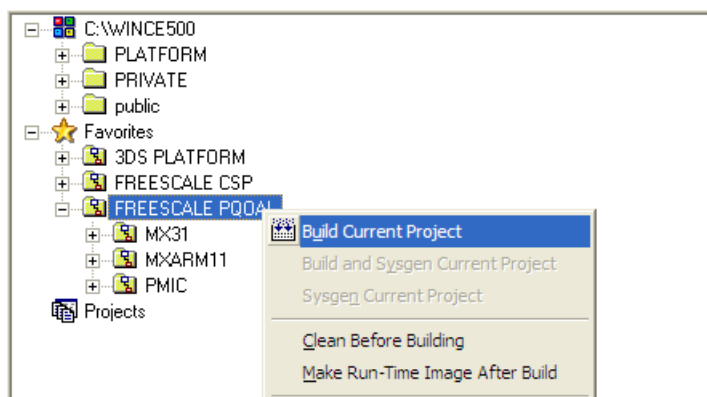

Figure 4-5 Incremental Build for CSP and PQOAL Libraries
7. If any PQOAL source files have been modified, perform an incremental build of the PQOAL libraries. To do so, right-click on the FREESCALE PQOAL folder and select **Build Current Project** (Figure 4-5).